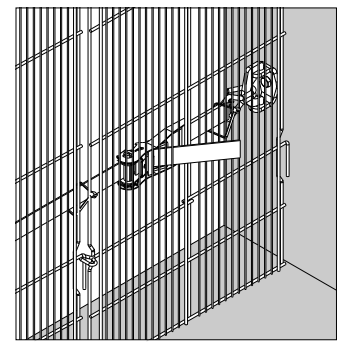

Fig. A2.11a
1. On a wall side, lean Fold Mesh PFR against the wall and mount additional Fold Mesh PFR. (Fig. A2.11a)